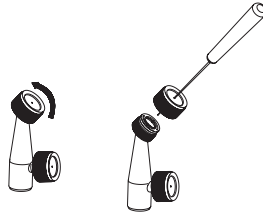

Figure 14
- Push a small wire through the exposed holes to clear any debris. Then flush with clean water. Refer to Figure 14.